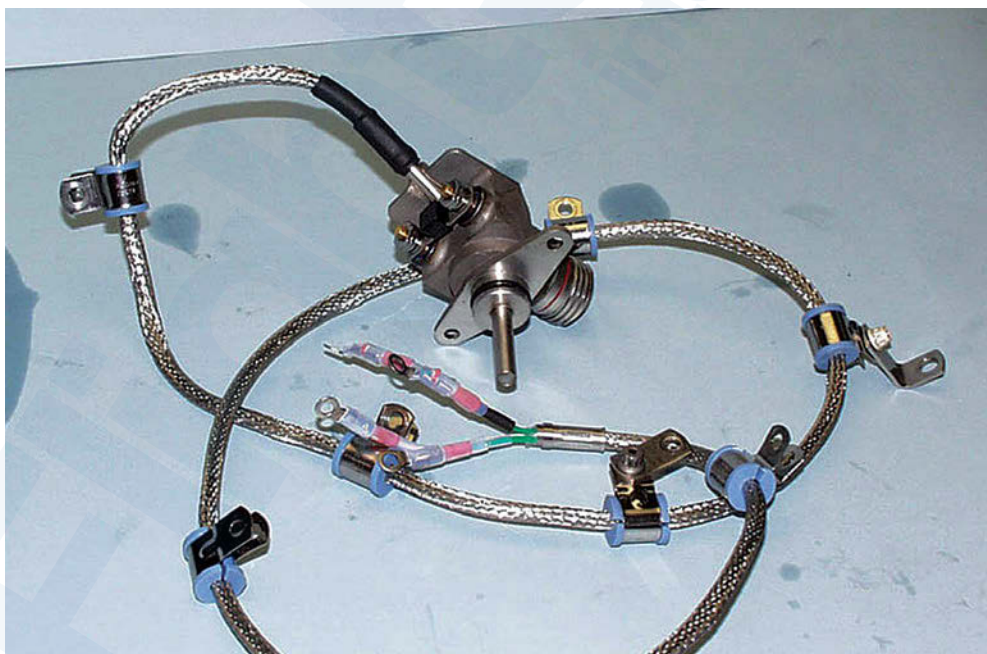

Figure 79-18. Oil Temperature Sensor
- Figure 79-18. Oil Temperature Sensor.